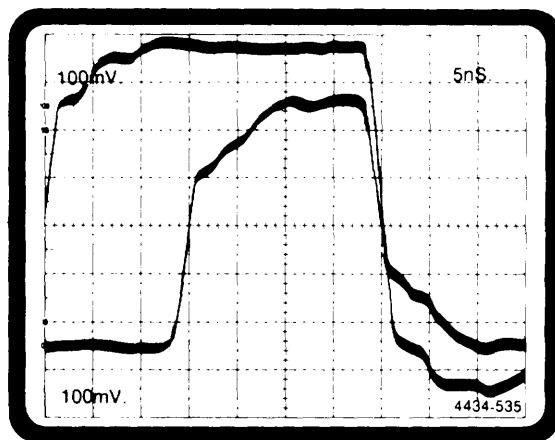

Figure 5-61. 338 Parallel data acquisition test waveform #2.
20. Adjust DD501 EVENTS LEVEL until the channel 2 waveform's falling edge crosses the channel 1 waveform's falling edge at 0 V (mid-screen). See Figure 5-61 (20 ns setup, 0 ns hold).